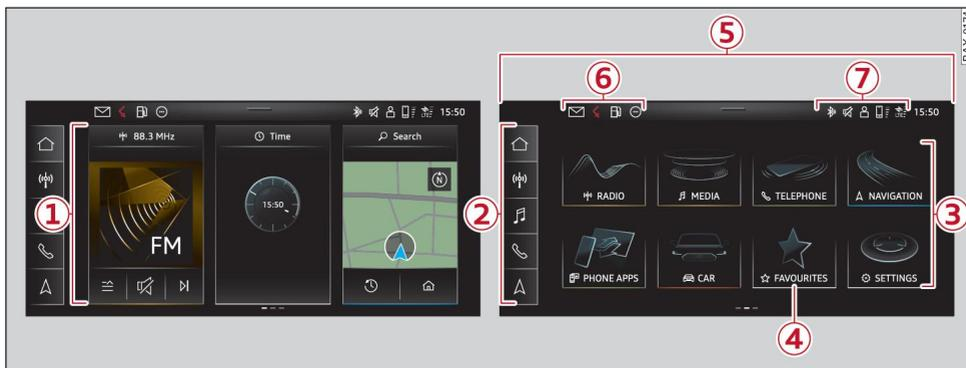
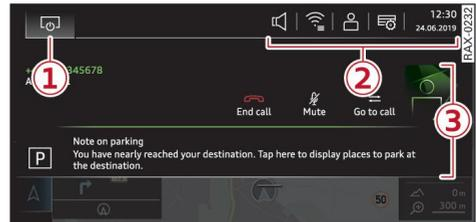

Fig. 13 MMI: Centre display
Fig. 15 Centre display: Notification centre
Notifications may be shown on the centre display. They will disappear after a certain time, and the corresponding symbol will appear in the status bar (6) ⇒ *page 21*, *Fig. 13*. You can view these notifications (3) ⇒ *Fig. 15* and adjust the quick settings (2) or operate functions (1) in the notification centre.